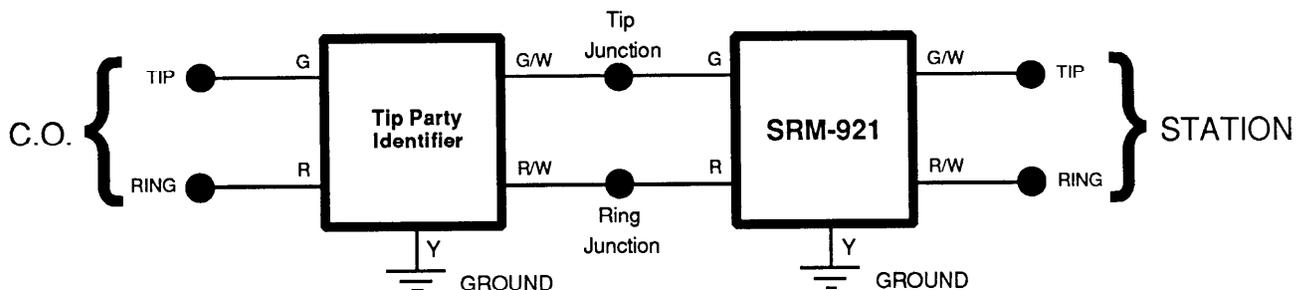

Fig. 2—Block diagram showing SRM-921 wired in conjunction with a Tip Party Identifier
3.06 If installing the SRM-921 in conjunction with a Tip Party Identifier device (such as the Keptel ANI-911 or DNI-910), refer to Figure 2.